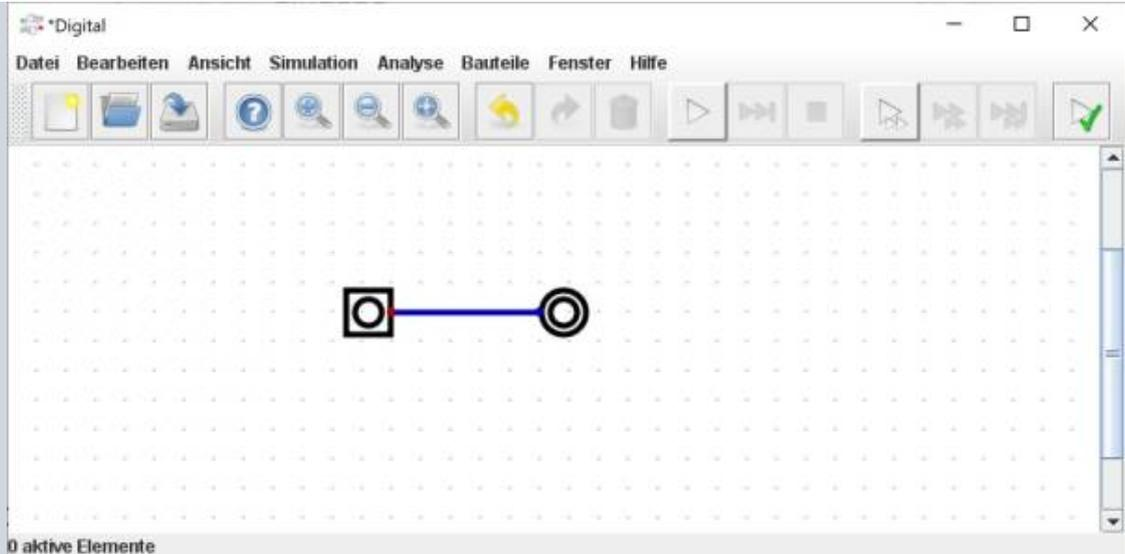

Fig. 2: Eingang und Ausgang verbunden
4. With this, the first simple circuit is already created (see figure 2). The circuit can be activated by pressing the start icon ►. If you have forgotten the connection or if there is another error, an error message appears. After confirming this error, the faulty component is highlighted in red.